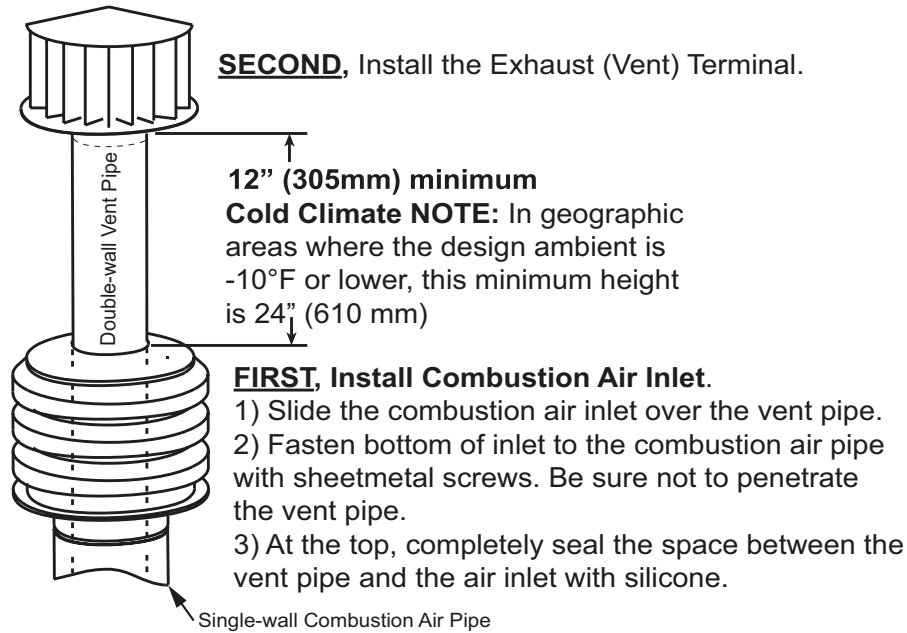

Figure 17. Combustion Air Inlet and Vent Terminal Installation
8. Install combustion air inlet (see Figure 17):
9. Install exhaust vent terminal (see Figure 17) in accordance with Figure 7.